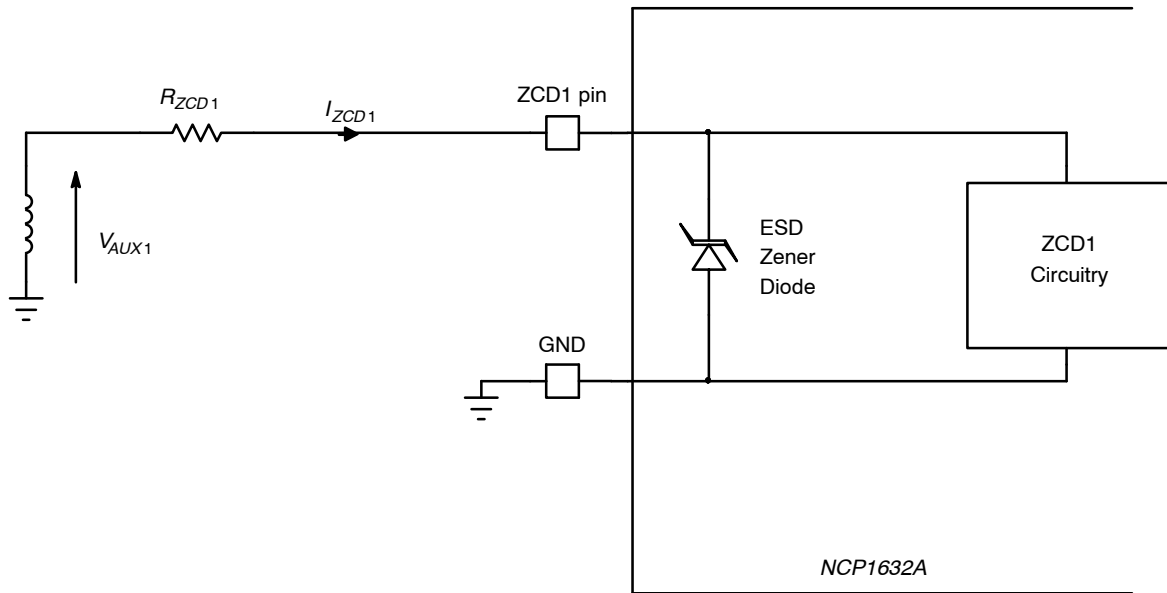

Figure 2. Limit the ZCD1 Pin Current (I_{ZCD1}) between -5 mA and 5 mA (the Same is Valid for the ZCD2 Pin)
- These maximum ratings (-0.3 V / 9.0 V) guarantee that the internal ESD Zener diode is not turned on. More positive and negative voltages can be applied to the ZCD1 pin if the ESD Zener diode current is limited to 5 mA maximum. Typically, as detailed in the Zero Current Detection section, an external resistor is to be placed between the ZCD1 pin and its driving voltage to limit the ZCD1 source and sink currents to 5 mA or less. See Figure 2 and application note AND9654 for more details. The same is valid for the ZCD2 pin.